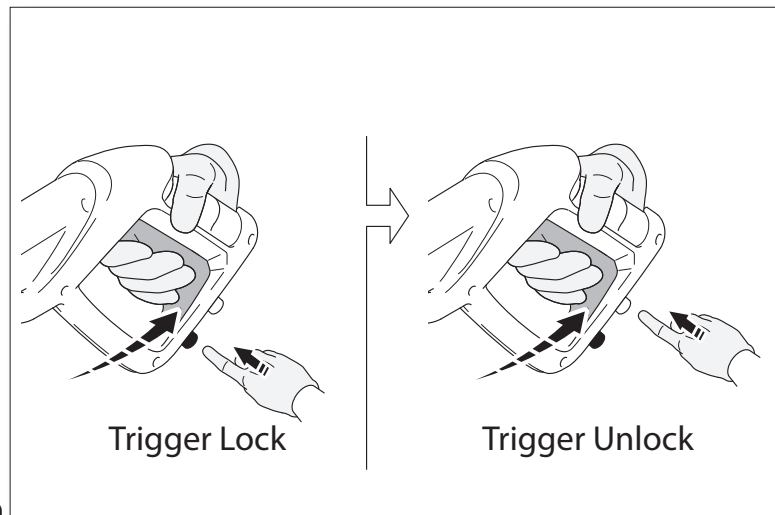

Fig. 21
- Release the safety lock button on the spray gun by pressing the safety lock in the back under the handle (Fig. 21). While pointing the spray gun in a safe direction, squeeze the trigger on the spray gun until there is a steady stream of water, letting the water and air out of the hose. Press the button in front to lock the trigger.
- Turn the power switch to the ‘ON’ (I) position. The unit will turn on for 1 - 2 seconds and shut off, this is a normal function of the (TSS) auto start feature. Squeeze the spray gun trigger to begin pressure washing.